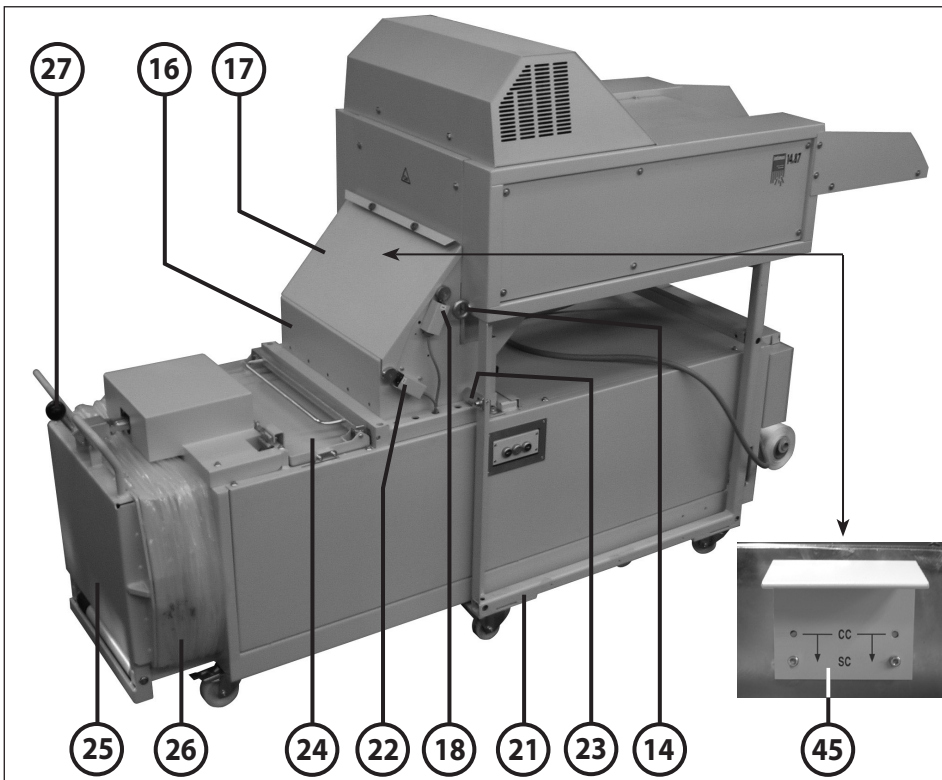

fig. 7
7. Position the two switch covers (43) over the limit switches and fix each to the hopper with two screws M5x16 and nuts M5.
8. Open cover flap (17). Check/correct position of security angle (45) (fig. 7):
ASSEMBLY OF THE COMBINATION (fig. 7, 8 and 9):
1. Push the baler under the shredder. Screw the shredder and the baler together with the aid of the two fixing brackets (23) provided with the shredder (fig. 7).
5. Turn the locking lever (27) (fig. 7) through 180° and screw on the knob provided.